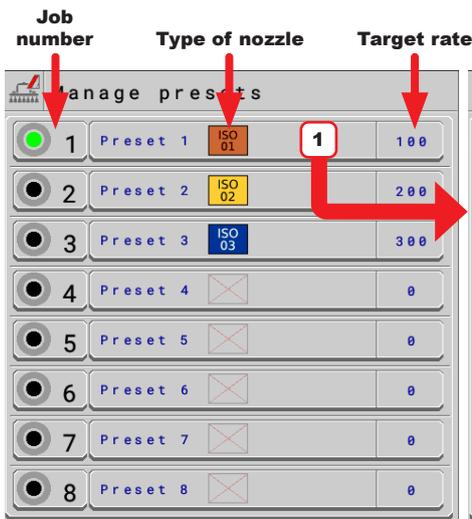

Fig. 74
- Set 8 different spraying configurations: PRESET SETTING, Fig. 74.